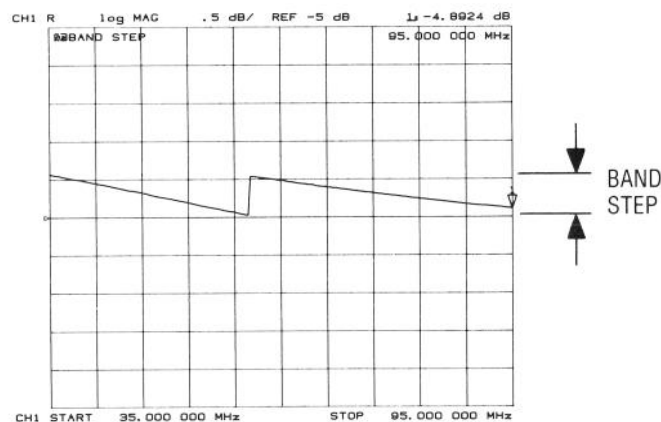
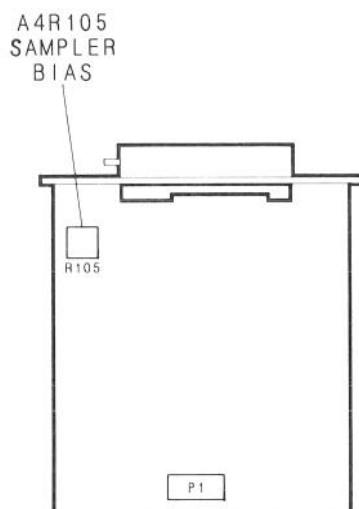

Figure 19. Band Step Size
Figure 22. Sampler Diode Bias Adjustment Location.
5. Press [START] [3] [5] [M/u] [STOP] [9] [5] [M/u] to observe the sampler band step size. Then press [SCALE REF] [.] [5] [x1] [MARKER→REFERENCE] to set up channel 1 to display the sampler band step size. The band step size should be 0.2 to 0.8 dB as shown in Figure 19.
13. Adjust the sampler bias potentiometer (see Figure 22) so that the band step is between 0.2 and 0.8 dB and the rolloff is between 1.5 and 3.5 dB (similar to Figures 19 and 20).